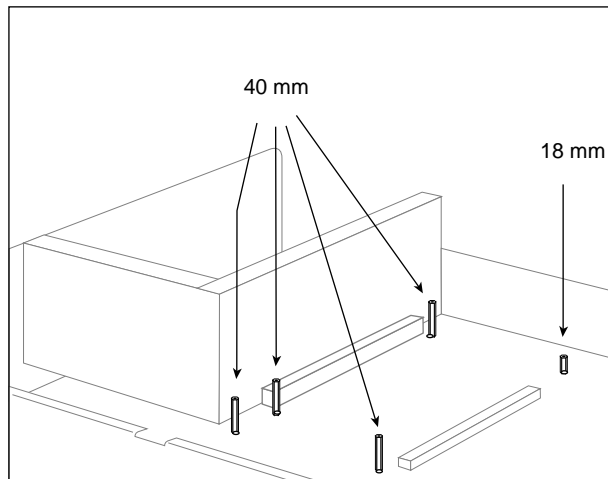

Figure 1-1 Location and Sizes of CPU Module Standoffs on the IP26 Base Board
- Figure 1-1** Location and Sizes of CPU Module Standoffs on the IP26 Base Board1-3
There are five standoffs on the IP26 board to elevate the R8000 CPU module. Four of these are 40 mm long and one is 18 mm long. The standoffs are 6 mm x M3 and are attached to the IP26 from the bottom with 6 mm x M3 hex nuts. Figure 1-1 shows the locations and sizes of the standoffs.